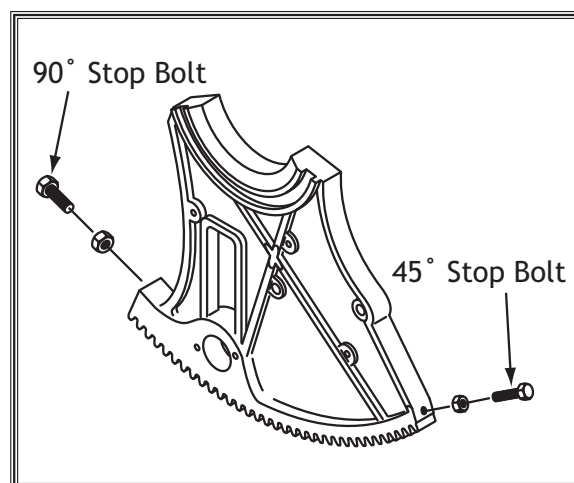

Figure 63. Blade tilt stop bolts.
4. Adjust the handwheel until the square is flush with the blade. Loosen the tilt indicator arrow, set to zero, and retighten. Loosen and adjust the stop bolt on the left side of the front trunnion to allow a 90° stop point. Refer to **Figure 63** for details.